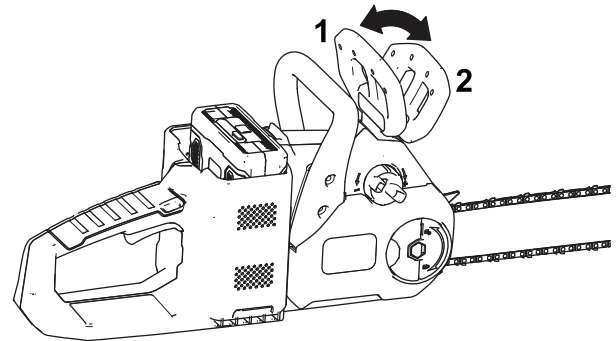

Figure 27
2. Engage the chain brake by moving the chain brake forward to the STOP position (Figure 27).
4. Disengage the chain brake by moving the chain brake rearward to the OPERATING position (Figure 27).
2. Loosen, but do not remove the wing nut on the cover (Figure 27).